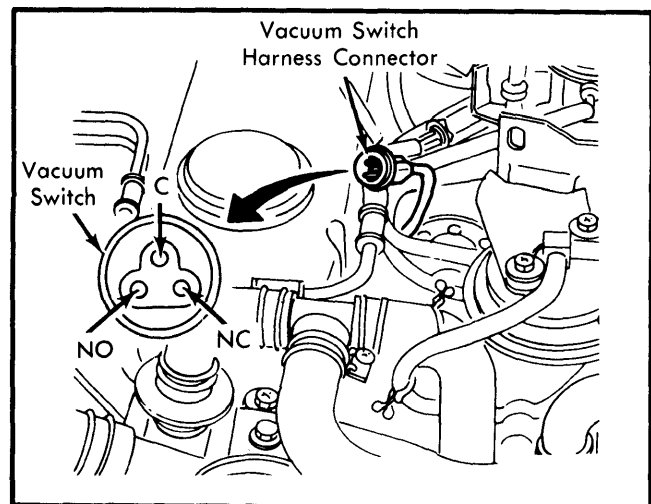

Fig. 5 Testing Vacuum Switch (210 & 310 Models)
5) On 210 and 310 models, voltage should be read between terminals "C" and "NO" during acceleration and no reading should be present at terminals "C" and "NC". During idle speed, current should be read between "C" and "NC" and no current at "C" and "NO". See Fig. 5.